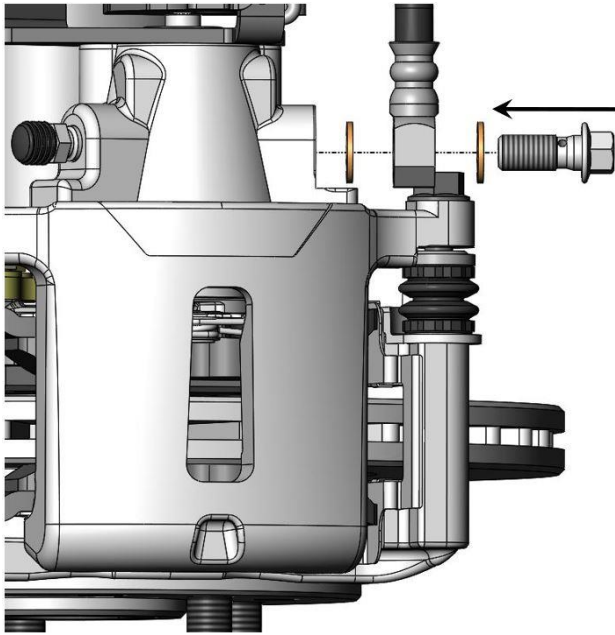
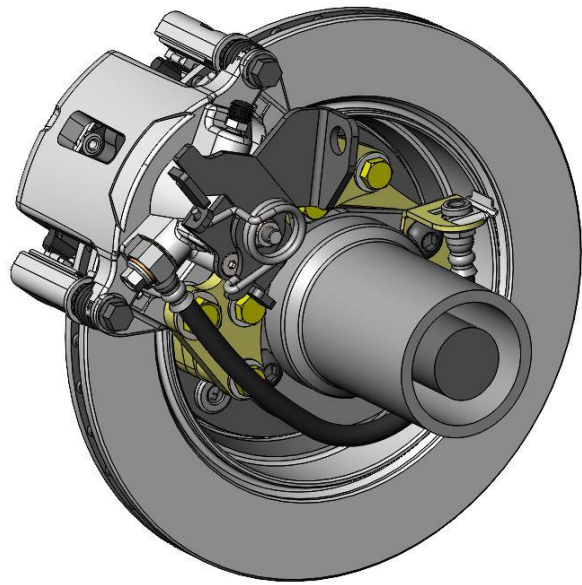

Figure 9a – Brake Hose Attachment to Caliper
Figure 9b – Brake Hose Attached at the Rear Axle Housing (DB1572BR LH Side Shown)
12. Install the flexible brake hose. Attach the brake hose to the caliper using the provided banjo bolt and copper crush washers as shown in Figure 9a on the next page. Next route the hose under the axle tube and attach it to the previously installed Brake Hose Mounting Bracket with the provided clip. Attach the hardline to the brake hose. **NOTE: Depending on the location and fitting size on the OEM hardline, it may be necessary to shorten and re-flare along with slightly bending the hardline to line up properly.** Proper installation of the flexible brake hose can be seen in Figure 9b on the next page.